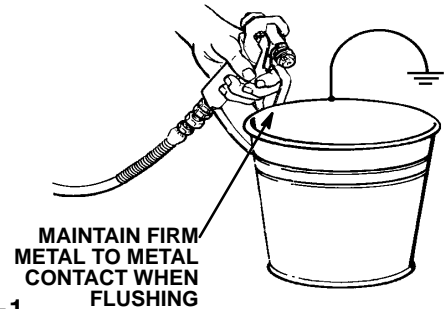

Fig 11–1
6. **To prime the pump,** hold a metal part of the gun firmly against a grounded metal waste container. See Fig 11–1. Hold the trigger open, turn ON the sprayer, and slowly increase the pressure setting until the sprayer starts. Keep the gun triggered until all air is forced out of the system and the paint flows freely from the gun. Release the trigger and engage the gun safety latch.